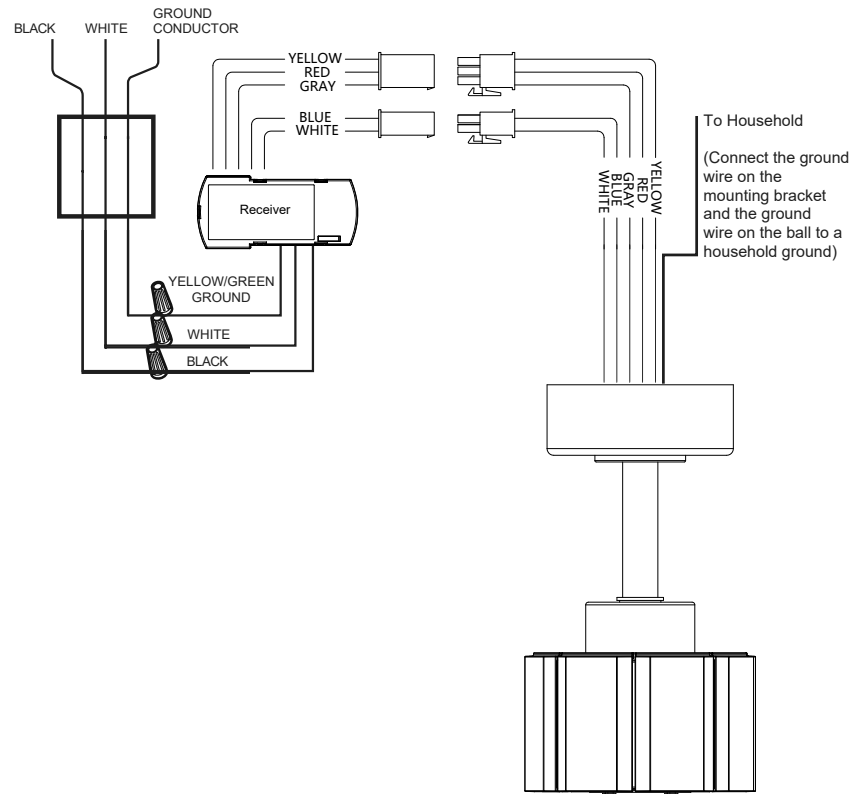

Fig. 11
Make each of the wire connections illustrated in Fig. 11. Secure each with the wire plugs provided.
Step 1. Connect wires using connectors as shown in Figure . Connect the 2 pin connectors from the motor assembly to the 2 pin connectors from the receiver, connect the 3 pin connectors from the motor assembly to the 3 pin connectors from the receiver. (Fig. 11)